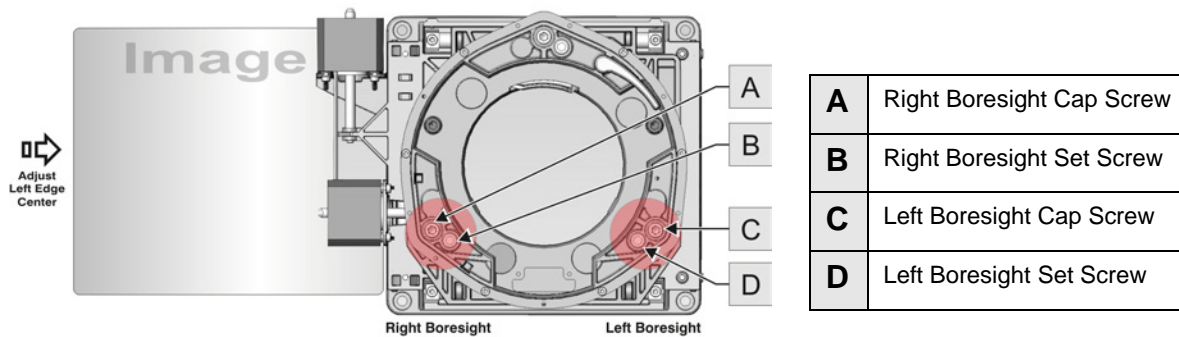

Figure 4-3 Left/Right Image Adjustment
6. Adjust both left and right horizontal adjusters by half the number of turns, in the **opposite direction** of the vertical adjust (**Figure 4-3**). For example, if the vertical adjust cap screws was turned 1/8 of a turn, the left and right horizontal cap screws should be turned 1/16 of a turn in the **opposite direction**.
- Loosen the right boresight set screw with a 5mm hex key. (**Figure 4-3/B**).
- Turn the right adjust cap screw 1/16 of a turn clockwise with a 5mm hex key (**Figure 4-3/A**).
- Adjust the left adjust cap screw equally in the opposite direction (**Figure 4-3/C**).